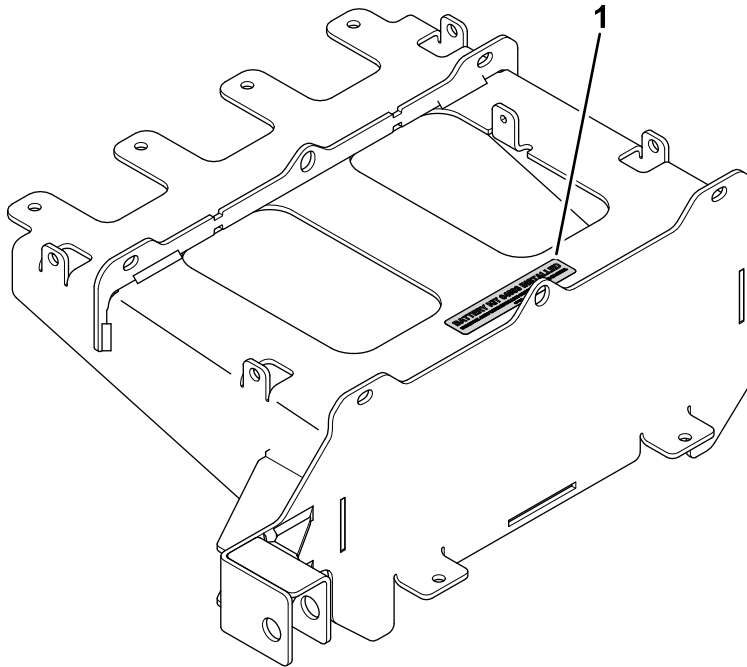

Figure 20
4. Install the Model 04593 decal to the lower mount plate as shown in Figure 20.